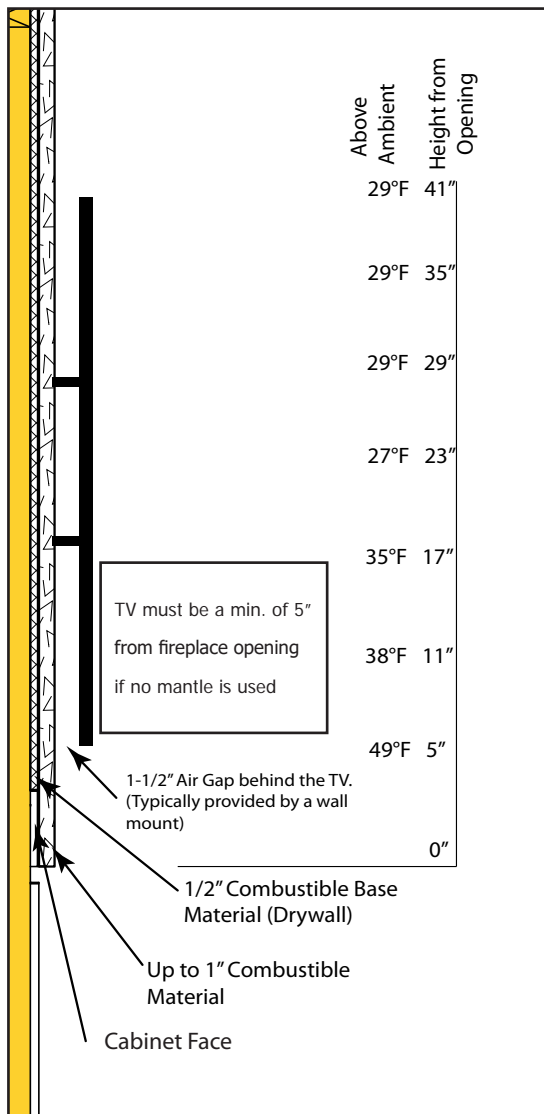
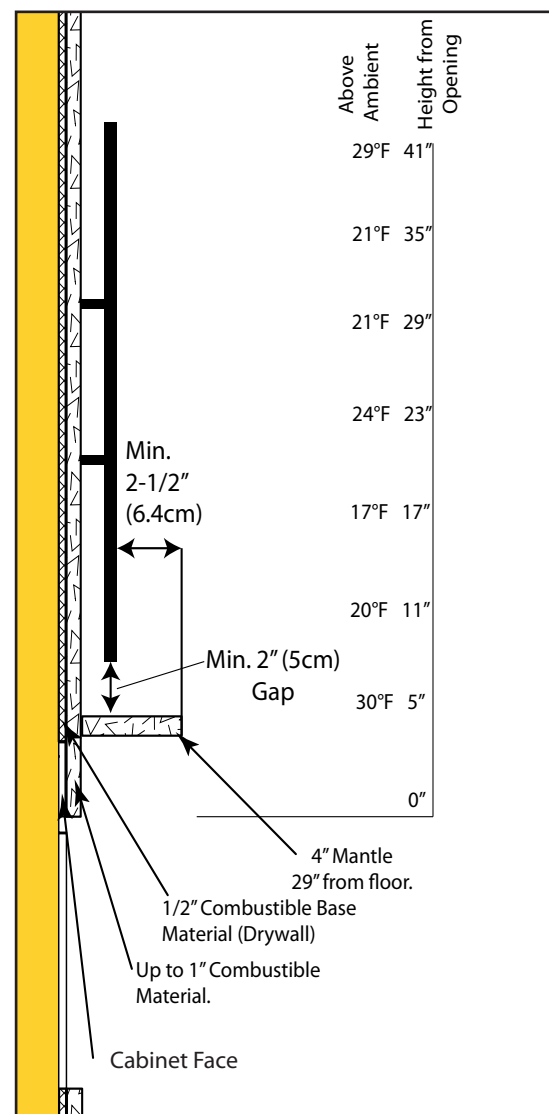

Figure 36: CSS TV Clearances
Figure 37: CSS TV Clearances
**During testing temperatures did not exceed 121°F (49°C)** midway up the front wall (Figure 36 & Figure 37). There is no guarantee that these temperatures will not harm the longevity of your TV. Make sure to consult your TV manufacturer's specifications to find the maximum allowable operating temperature. Since every home and installation is unique, temperatures should be verified at the time of install if possible. If desired, front wall temperatures can be lowered to 104°F (40°C) with the use of a mantle (Figure 37). Refer to page 28-29 for revised mantle clearances. A TV should not be installed if temperatures exceed the manufacturers maximum allowable temperature.